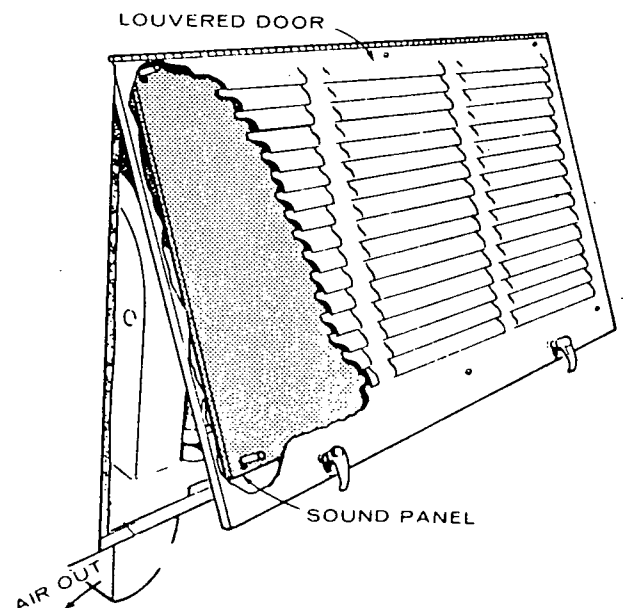

FIGURE 4. TYPICAL LOUVERED DOOR AIR INLET
Sheet metal with louvers can be used over inlet areas. However, some provide only 60 percent free inlet area per square foot. Even the most efficient grille only provides about 90 percent free inlet area per square foot. The free inlet area of the material can be obtained from the manufacturer. Calculate the inlet area needed using the following information as a guide. See Figure 4.
4. To prevent line of sight noise, a sound panel (baffle) may be added behind louvered air inlet. The panel must be spaced to allow for minimum free air inlet of 120 square inches. See Figure 4.